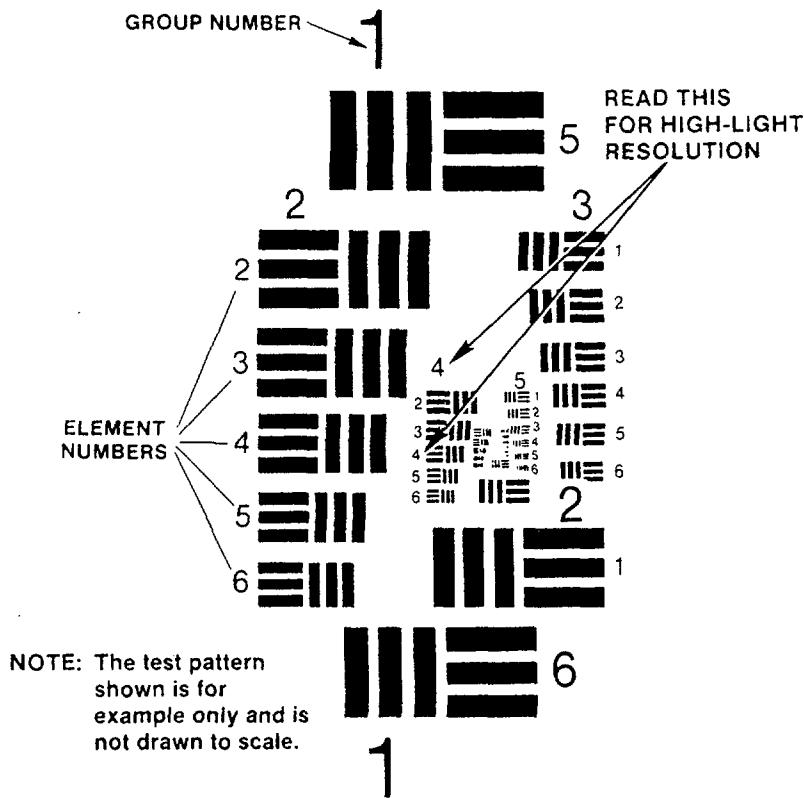

Figure 2-7. TS-4348/UV Test Set Pattern.
- 7 Turn the sight on to maximum brightness. Look through the sight and view the projected test pattern supplied by the test set, unit assembly fig. 2-7. If necessary, rotate the sight in the adapter until the center of the (quarter moon shape) test pattern is within the lighted area.